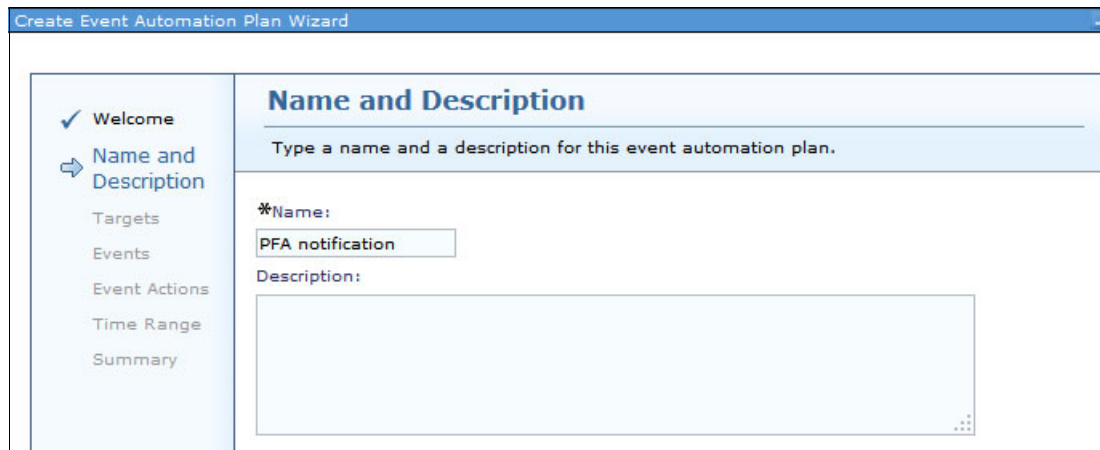

Figure 7-18 Create Event Automation Plan Wizard Name and Description window
4. The Name and Description window opens (Figure 7-18). Enter a descriptive name for the event automation plan that you are creating.